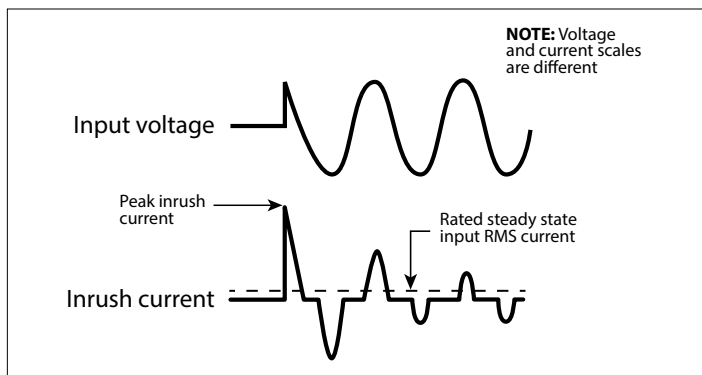

Fig 4.1: Inrush current in an SMPS
- AC to DC Switched Mode Power Supplies (SMPS): This type of power supply is used as stand-alone power supply or as front end in all electronic devices powered from Utility / Grid e.g. in audio/video/ computing devices and battery chargers (Please see Section 4 for more details on SMPS). When this power supply is switched ON, its internal input side capacitors start charging resulting in very high surge of Inrush Current for a few milliseconds (Please see Fig 4.1). This surge of inrush current / power may reach up to 15 times the Continuous Maximum Running Power Rating. The surge of inrush current / power will, however, be limited by the Surge Power Rating of the AC source.
Switch Mode Power Supplies (SMPS) are extensively used to convert the incoming AC power into various voltages like 3.3V, 5V, 12V, 24V etc. that are used to power various devices and circuits used in electronic equipment like battery chargers, computers, audio and video devices, radios etc. SMPS use large capacitors in their input section for filtration. When the power supply is first turned on, there is a very large inrush current drawn by the power supply as the input capacitors are charged (The capacitors act almost like a short circuit at the instant the power is turned on). The inrush current at turn-on is several to tens of times larger than the rated RMS input current and lasts for a few milliseconds. An example of the input voltage versus input current waveforms is given in Fig. 4.1. It will be seen that the initial input current pulse just after turn-on is > 15 times larger than the steady state RMS current. The inrush dissipates in around 2 or 3 cycles i.e. in around 33 to 50 milliseconds for 60 Hz sine wave.